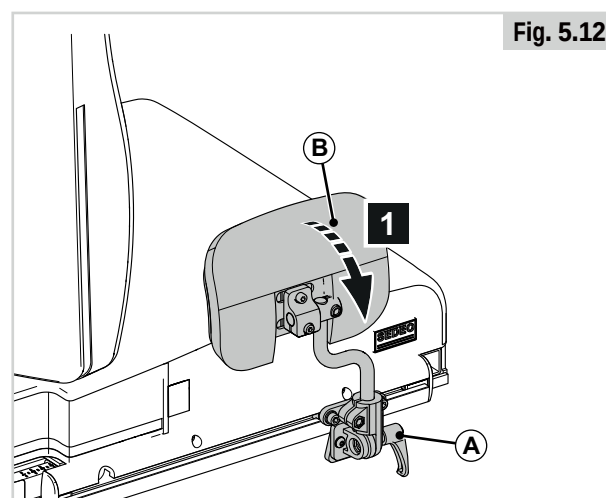

Fig. 5.12
5.7 Knee support / Thigh support (Fig 5.12)